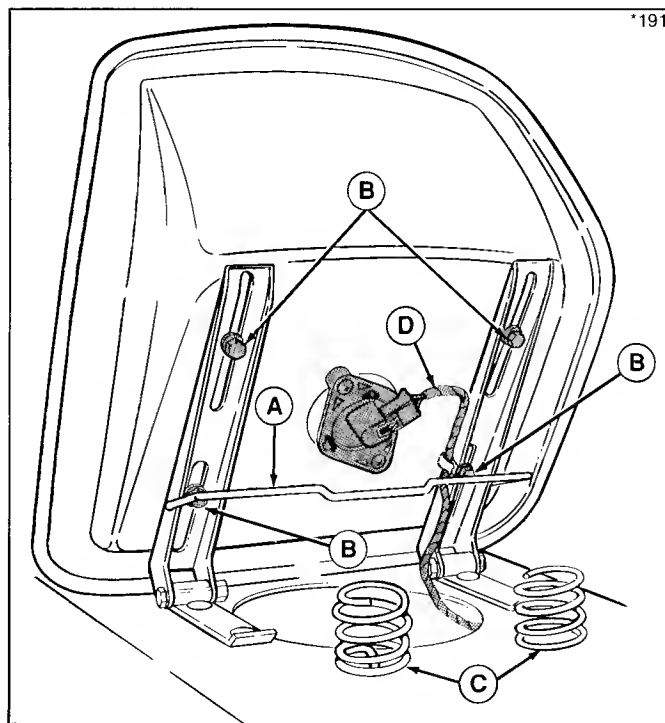

Figure 39. Seat Adjustment
1. Unlatch seat by pushing down on back of seat and unhooking latch bar (A, figure 39). Make sure latch bar locks in place after lowering seat.
2. The seat can be moved forward or back for operator comfort. Loosen the four screws (B) and move the seat to the desired position. Tighten the screws.
3. Make sure there is enough slack in wire (D) for seat to be adjusted fore/aft and raised and lowered.
4. The springs (C) can be moved to forward holes for lighter operator. Pull up out of holes to relocate springs.